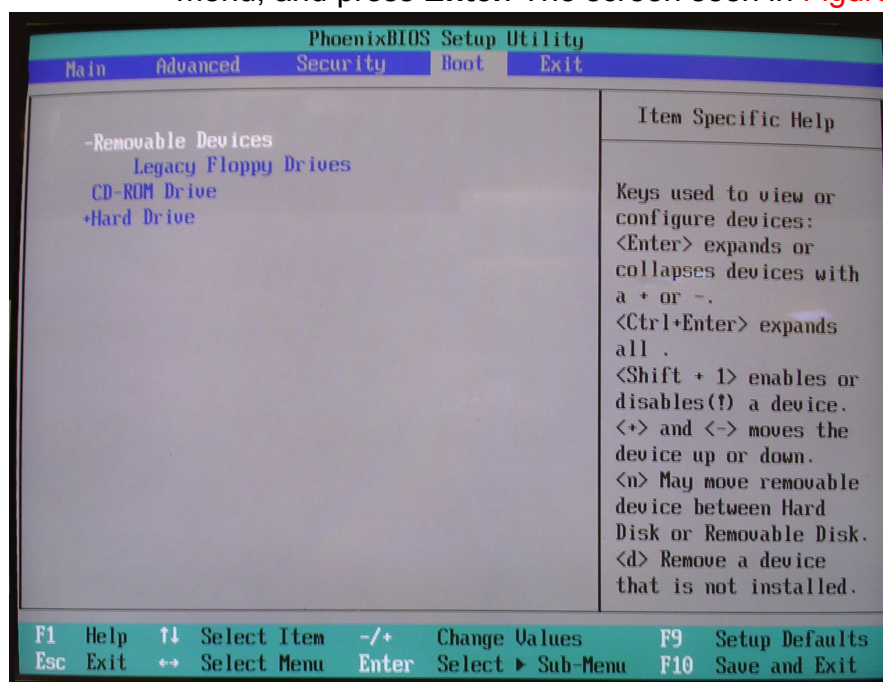

Figure 6-15. BIOS Boot screen
4. Use the keyboard's arrow keys  $\uparrow\downarrow$  to cursor left-to-right to the **BOOT** menu, and press **Enter**. The screen seen in **Figure 6-15** appears.